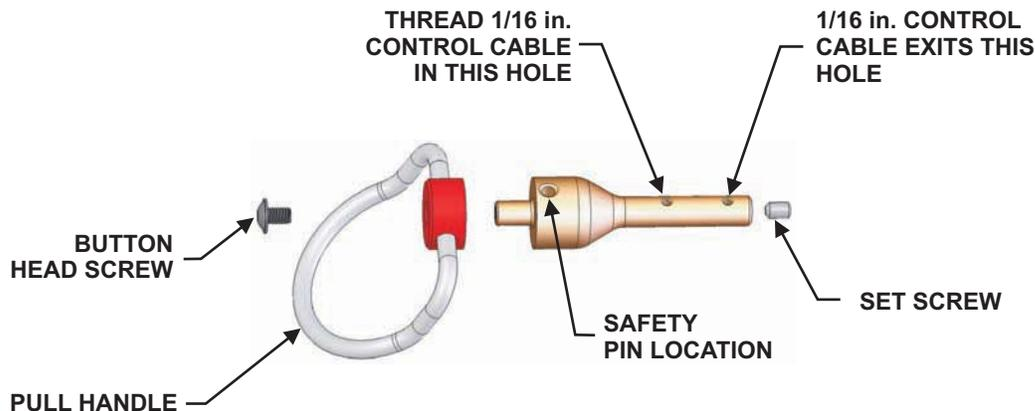

Figure 4-39. Remote Manual Release Pull Station Handle Assembly
7. Thread the detection line cable through the hole closest to the Handle Assembly. Loop the cable around and through the other open hole. See Figure 4-39.